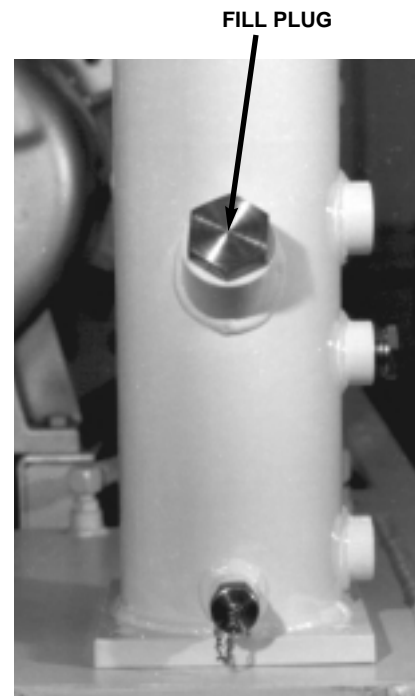

FIGURE 4.10-1 SEPARATOR TANK
8. Remove coolant fill plug (See Figure 4.10-1).
11. Remove coolant fill plug (See Figure 4.10-1).